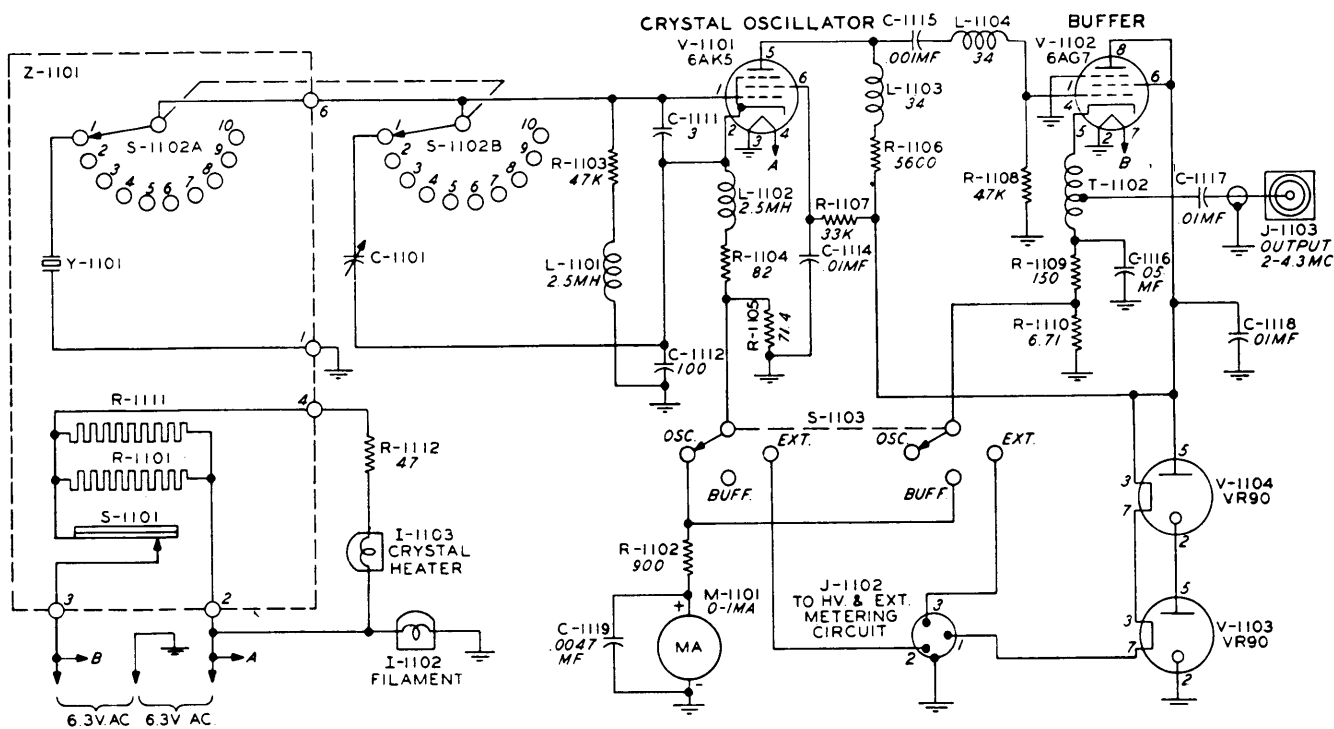

Figure 2-2. Simplified Schematic — RF Oscillator O-92A/FRT-5, Crystal Oscillator
(1) RF OSCILLATOR O-92A/FRT-5. — (Refer to figure 2-2.) — RF Oscillator O-92A/FRT-5 is a 10-channel crystal oscillator capable of delivering 2 to 4 volts RMS into a 50-ohm to 80-ohm load over the frequency range of 2000 kc to 4300 kc. It utilizes a Pierce oscillator circuit and consists of an untuned